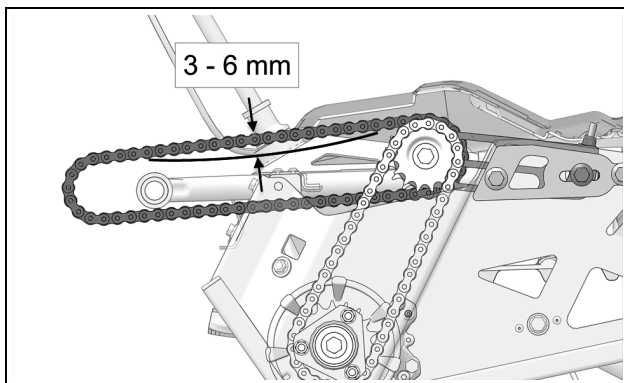

Figure 7
- Once the secondary drive chain tension is set, finalize tension adjustment of primary drive chain. Apply pressure at center of the two drive pignons. The chain should have 3-6 mm (1/8 - 1/4 in.) of play. Re-adjust until the right amount of play is obtained. See Figure 7.